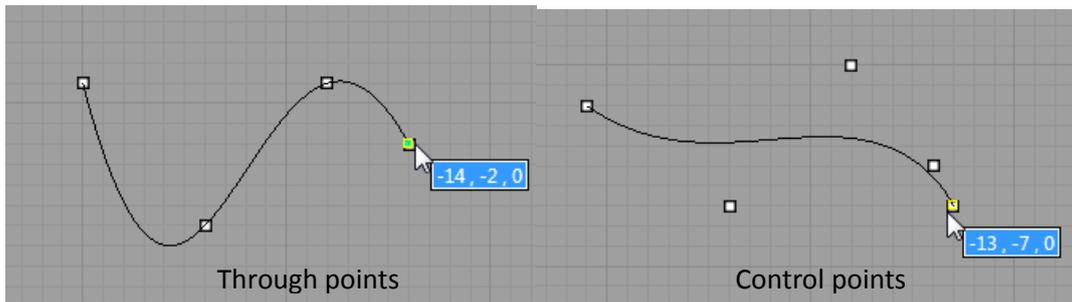

Figure 11. Creating freeform curves.
- Through points:** The curve passes through the entered points as shown in Figure 11. This is the default option. The dot points are the entered points.
2. **Control points:** The curve does not pass through the entered points, but its alignment is defined by each control points entered as shown in Figure 11.